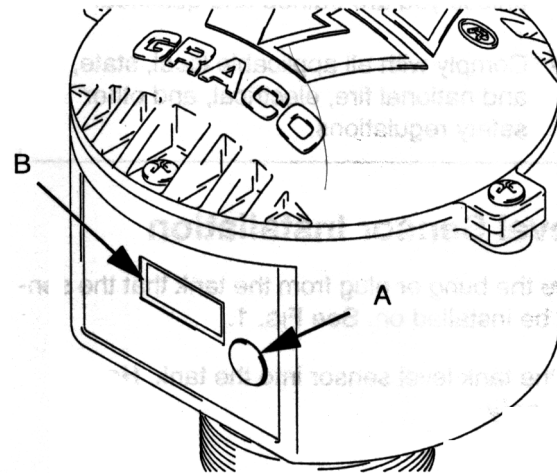

FIG. 2
1. Press and release the tank read button (A). See FIG. 2.
2. The LCD (B) displays the first screen with the gallons remaining in the storage tank. This screen displays for approximately 4 seconds.